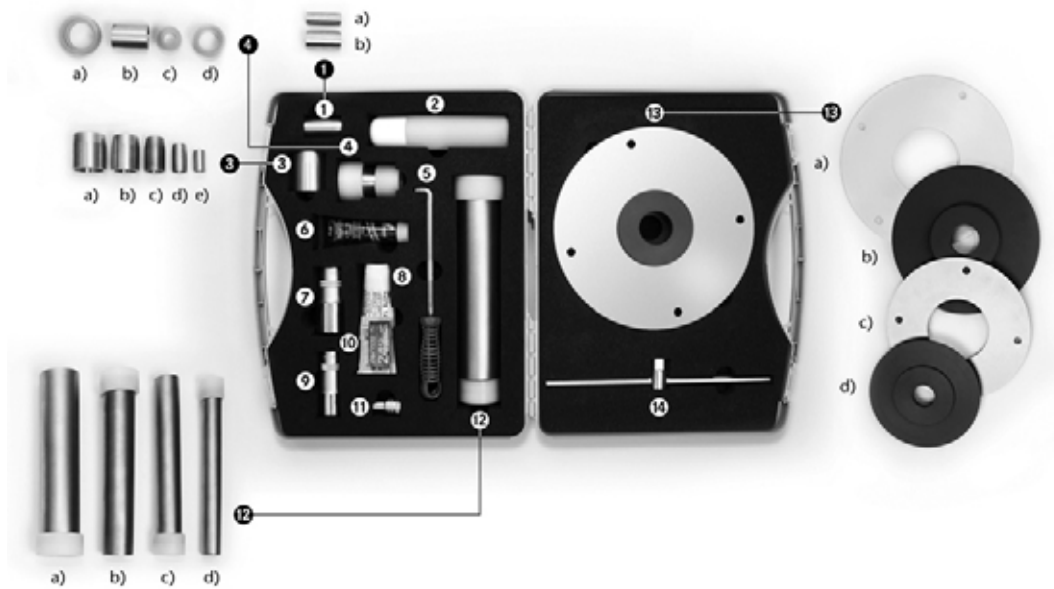

Fig. 45 HILGE assembly tool kit
7. Grease the Nord-Lock washer 0930.00 by using Klüberpaste UH1 96-402 from the HILGE assembly tool kit pos. 6 Fig. 45.
11. Grease the threads of the tie bolts 0905.00. Use Klüberpaste UH1 96-402 from HILGE assembly tool kit for this, pos. 6, fig. 45.